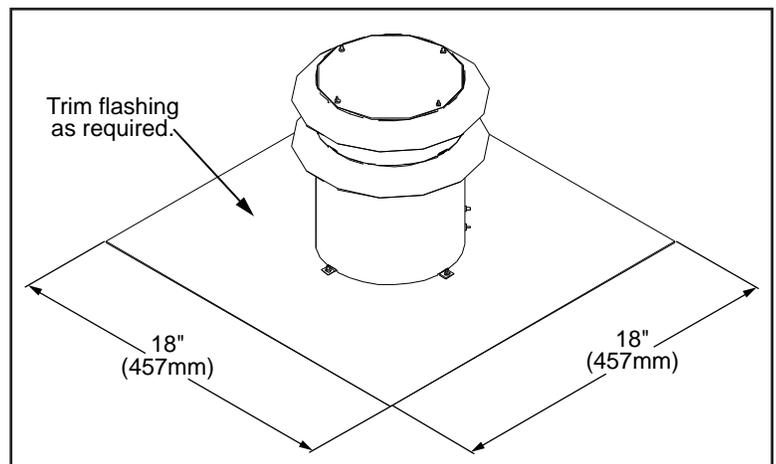

Figure 29: Generic Vent Cap Dimensions.
4. Most vent caps can be installed onto chimneys with flue openings up to 16" (406mm) x 16" (406mm) and the actual flashing is 18"x18" (refer to Figure 29). If the chimney is smaller the cap should be trimmed down and folded over.
5. Apply a bead of stove cement sealant to the top section of the Ø3" (76mm) exhaust vent collar plate. Slide the Ø3" (76mm) flex vent over the flue collar and secure with three (3) sheet metal screws evenly spaced.
6. Place a bead of high temperature silicone on the intake collar of the fireplace, slide the Ø3" (76mm) flex intake liner over the collar, secure the flex liner with three (3) sheet metal screws evenly spaced.
7. At the top of the chimney, apply a bead of stove cement sealant to the Ø3" (76mm) pipe of the exhaust vent terminal. Slide the flex liner onto the vent terminal and secure with three (3) sheet metal screws evenly spaced.
8. Place a bead of high temperature silicone on the intake collar of the vent terminal. Slide the Ø3" (76mm) flex intake liner over the collar, secure the flex liner with three (3) sheet metal screws evenly spaced.